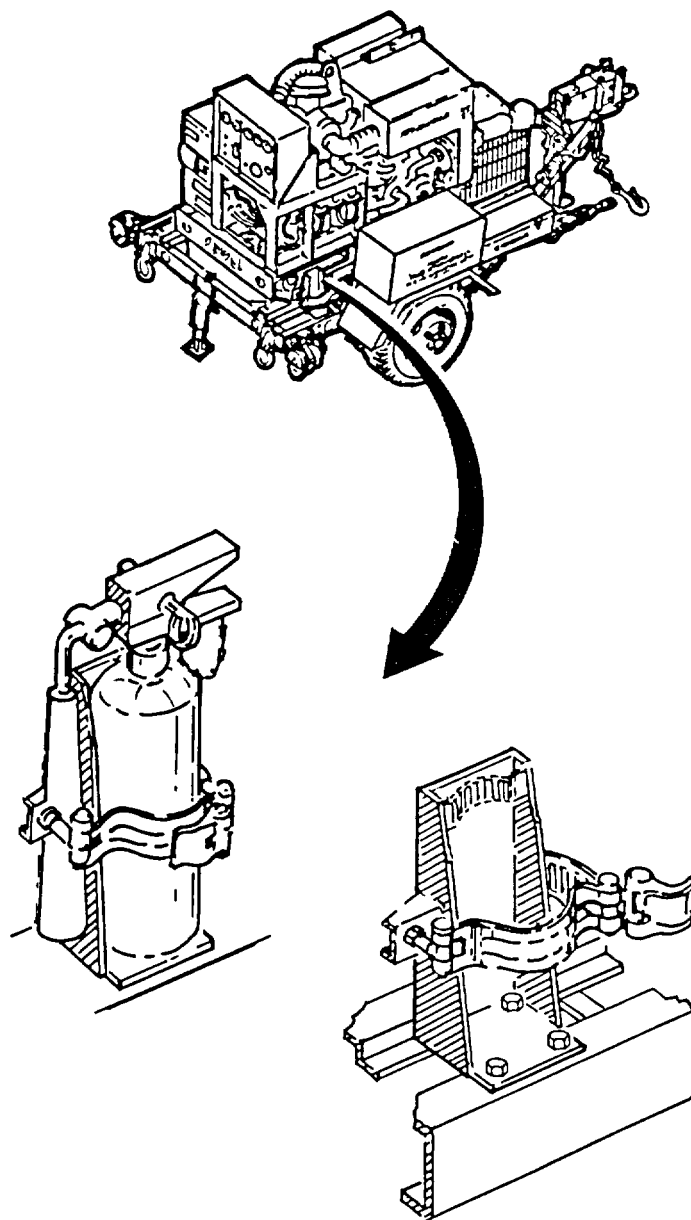

Figure 4-8. Fire Extinguisher.
**4-14. FIRE EXTINGUISHER.** Remove fire extinguisher from accessory box and place securely in holder. Refer to figure 4-8.